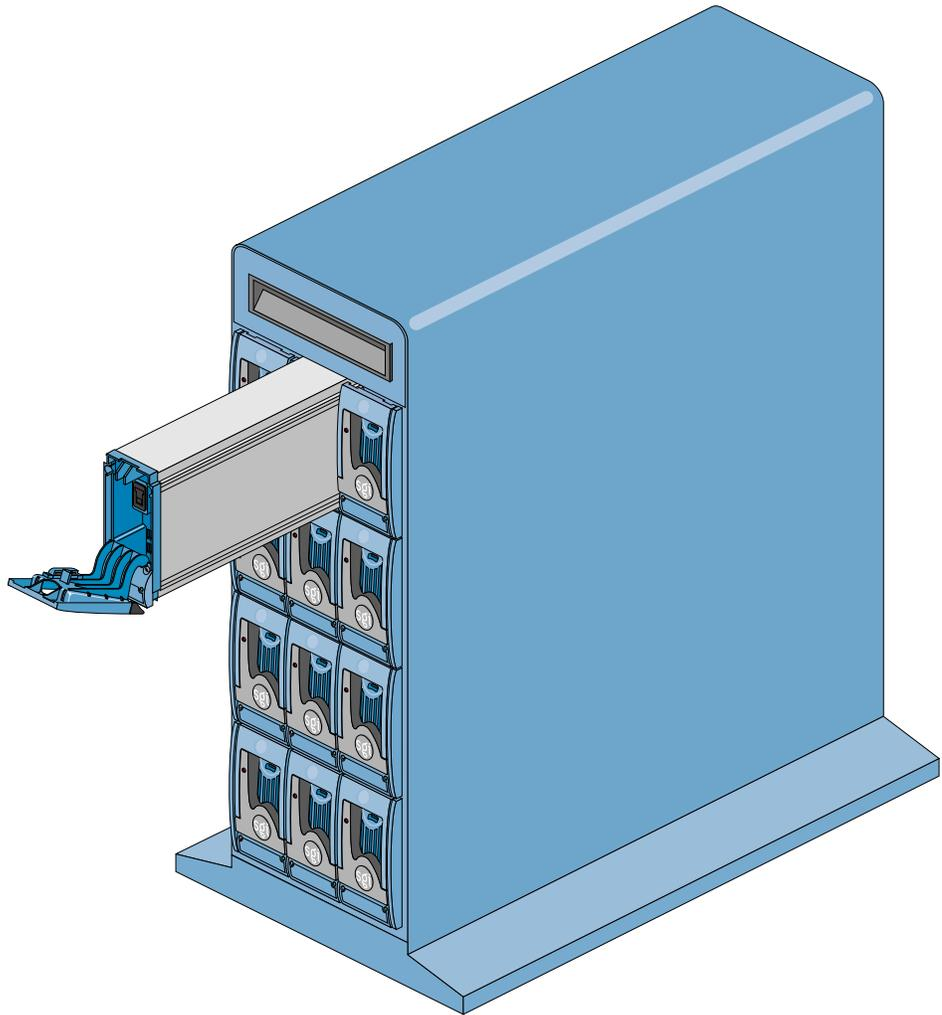

Figure 6-4 Inserting the Disk Drive Module
5. Insert the disk drive module into the chassis; see Figure 6-4.